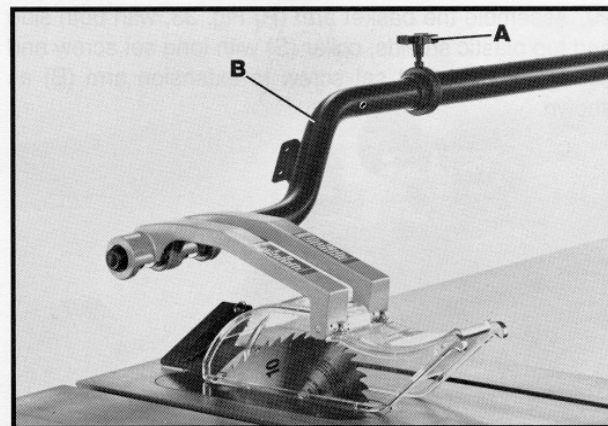

Fig. 37
25. Rotate the basket arms over the saw blade and adjust extension arm (B) Fig. 37, so that the plastic shields are not in contact with the saw blade. Extension arm (B) is adjusted by loosening lock handle (A), move extension arm (B) in or out so that saw blade is clear of plastic shields and tighten lock handle (A).